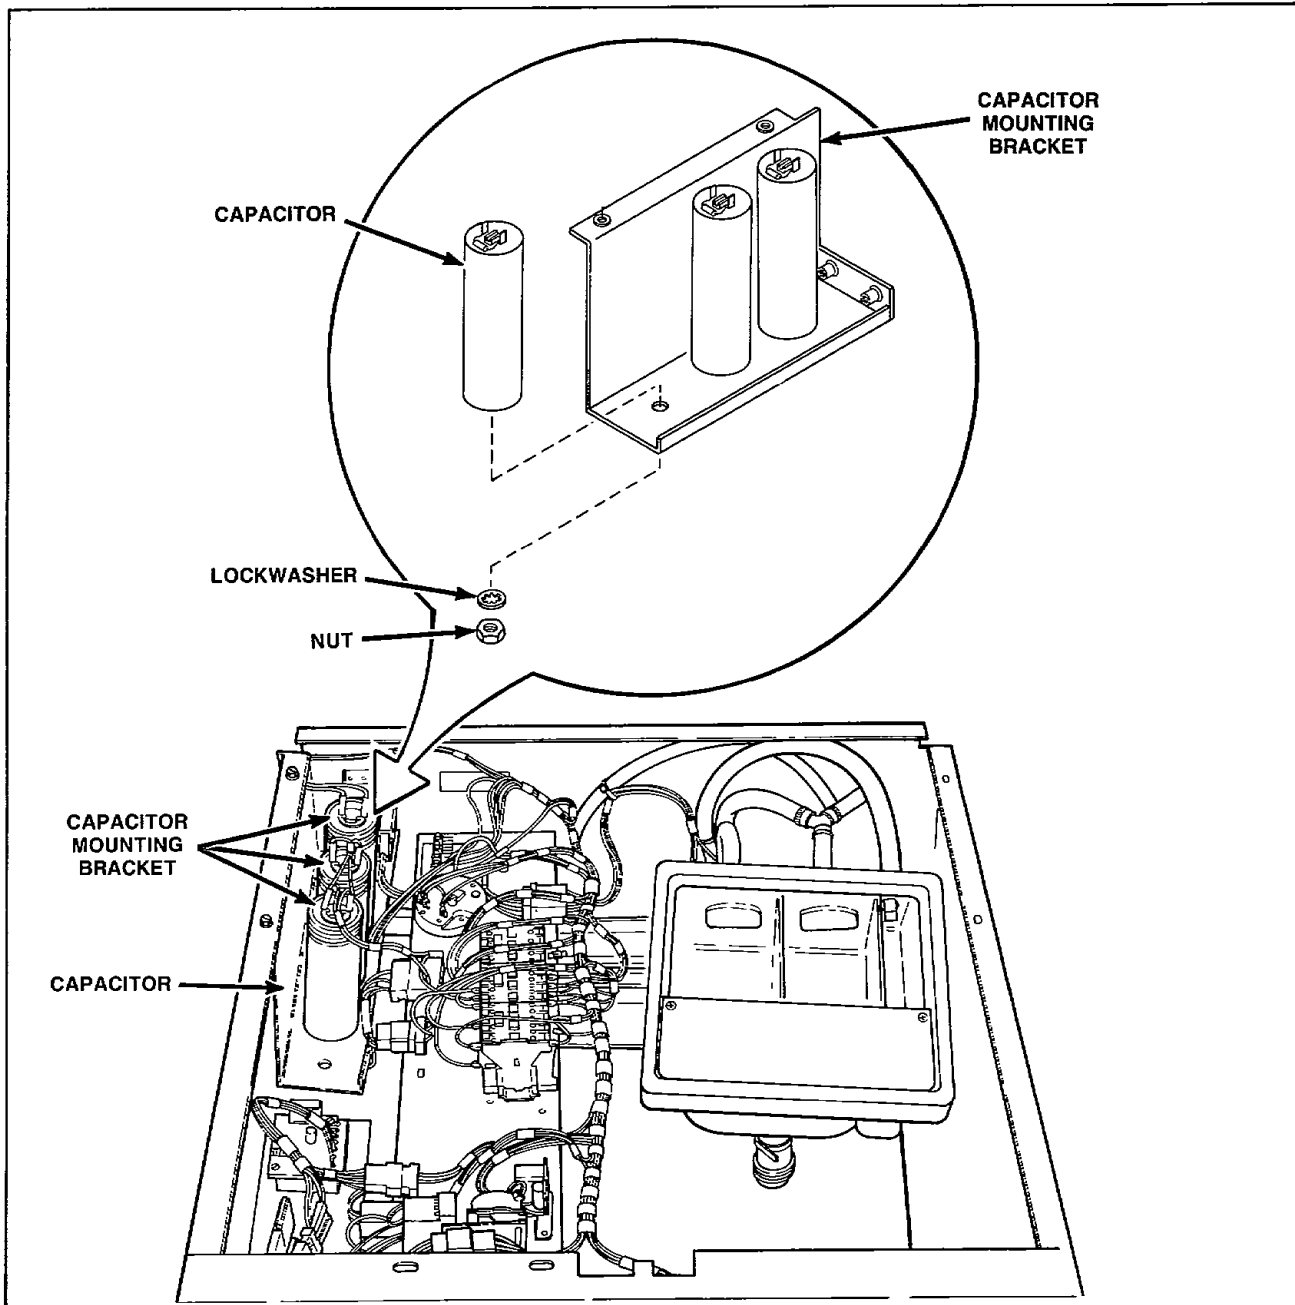

Figure 20
- f. Reach under capacitor mounting bracket and remove nut and lockwasher holding capacitor to mounting bracket, *Figure 20*.